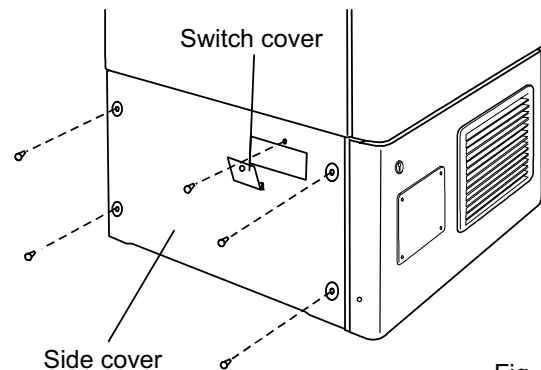

Fig. 2
2. As shown in the Fig. 2, remove 4 screws fixing the side cover with a screw driver and remove the side cover..
2. As shown in the Fig. 2, insert the temperature recorder to the mounting space and fix it to the back side of the front panel by using the recorder fixture enclosed with the recorder.